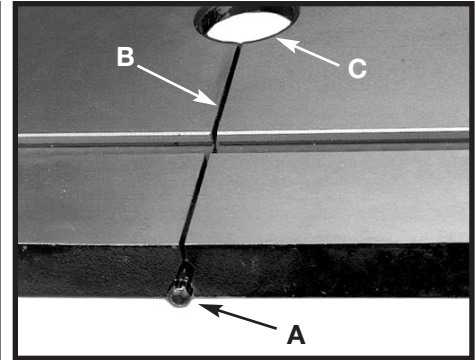

Fig. 5
1. Remove the table pin (A) Fig. 5.
3. Align the blade with the table slot. Slide the table until the blade has reached the center cutout (C) Fig. 5, then rotate the table 90 degrees toward the front of the machine.